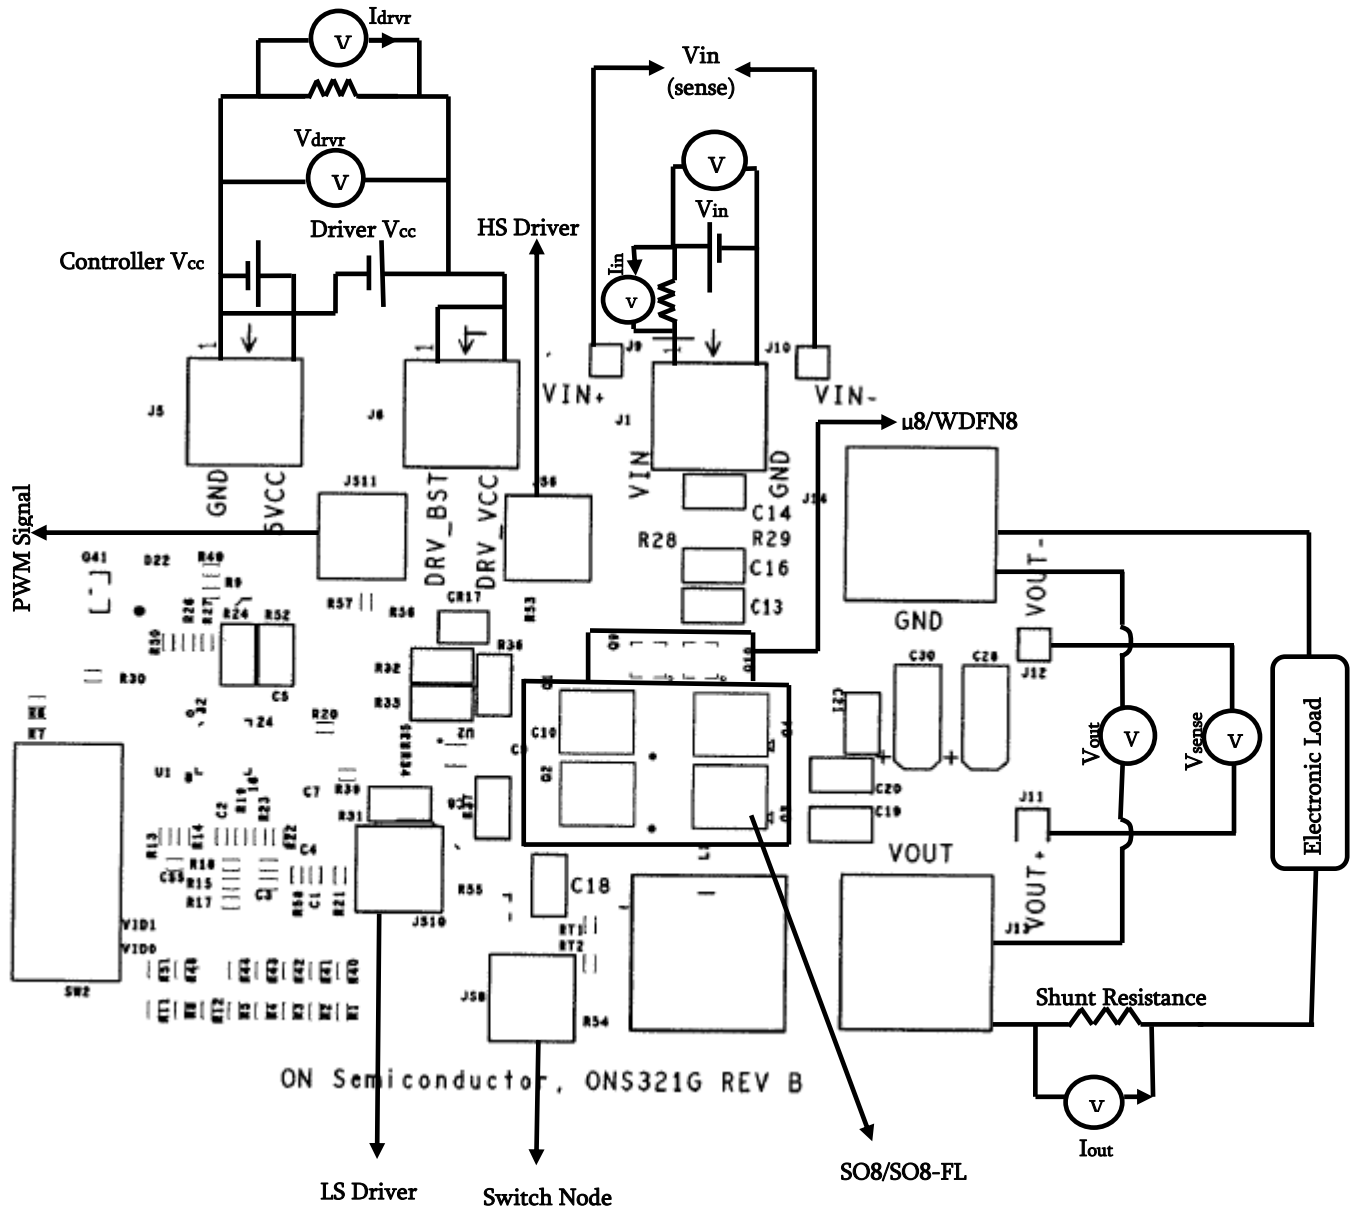

Figure 3: Schematic of the Test Setup
In the ONS321G Evaluation Board, the voltages that are to be measured are V_{in} , V_{out} and V_{dvr} . Similarly, the currents that are to be measured are I_{in} , I_{out} and I_{dvr} . The set up for measuring these voltages and currents, and the meters required are shown in *Figure 3*. The currents are measured across the shunt resistances that are connected across each of the terminals of input, output and driver voltages as shown in *Figure 3*. For example, the output current is measured as, $I_{out} = V_{out} / R_{sh}$. Similarly the input and driver current can also be measured. The connecting wires from the output terminal to the electronic load should be thicker in order to avoid losses and to measure the exact voltage at the end of the terminals.
The test set up, test points and components present on the ONS321G Evaluation Board are shown in Figure 3.
- (1) Before making any connections, make sure to set the power supplies for input voltage and the driver voltage at 0V. Also make sure that the load current is at 0A.
- (2) Connect the Oscillator probes at the desired test points.
- (3) Set the driver voltage to the required value (For example, $V_{dvr} = 5V$).
- (4) After reaching the required driver voltage, set the input voltage as required. (For example, $V_{in} = 12V$).
- (5) Set the load current slowly to the desired value. For example, $I_{out} = 2.5A$. (Refer to *Start Up Procedure #4*).
- (6) The frequency is already set to 330 kHz. If a different switching frequency is required, R13 and R14 have to be changed as per the data sheet of NCP5386. (Refer to *Appendix*).
- (7) Connect the voltmeters/multi-meters to monitor the required parameters. (Refer to *Figure 3*).
- (8) Obtain the required data and waveforms.